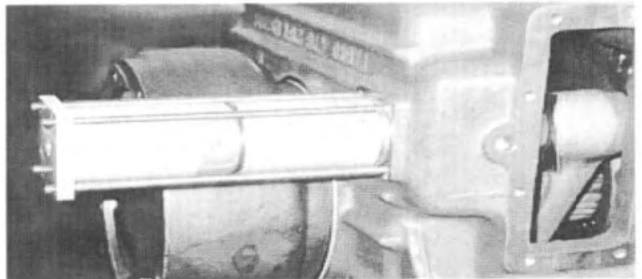

Fig. 99
37. If equipped with neutral, install the outer half of the shift cylinder onto the high-low shift cylinder. Secure the assembly with four (4) 1/4-20 studs and nuts. Torque to specification. See Fig. 99.